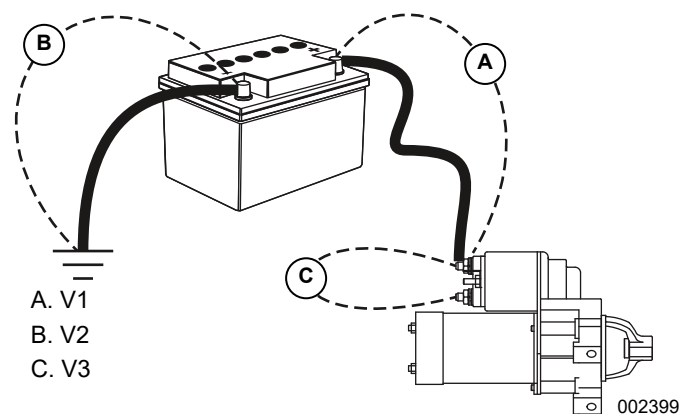
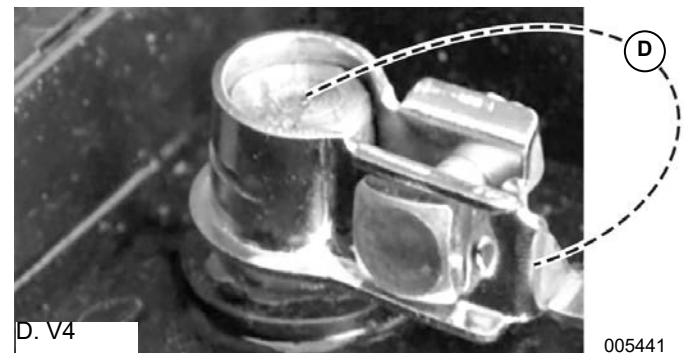

Figure 4-41.
Figure 4-42.
5. Refer to battery post and starter connections in Figure 4-41 and Figure 4-42 and perform a voltage drop test as indicated.
7. Record readings from test points V1, V2, V3 and V4 as depicted in Figure 4-41 and Figure 4-42. Although resistance-free connections, wires and cables would be ideal, most of them will contain at least some voltage drop. The maximum voltage readings you should see are as follows: